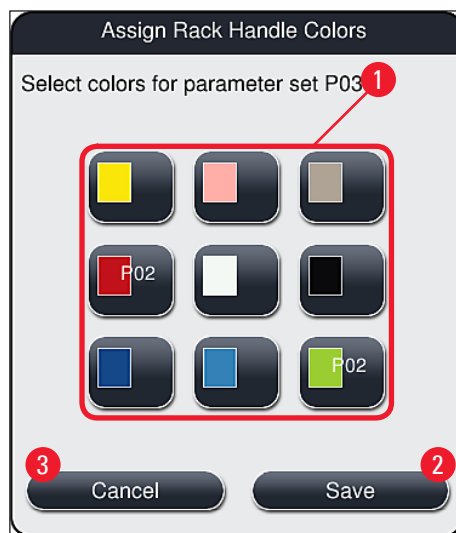

Fig. 46
2. Pressing the **Color** (→ Fig. 45-2) button displays a selection field (→ Fig. 46), that allows the assignment of the rack handle color to the selected parameter set.
- All available colors are displayed in Figure (→ Fig. 46). If an abbreviation is entered in the color field, this color has already been assigned to a parameter set.